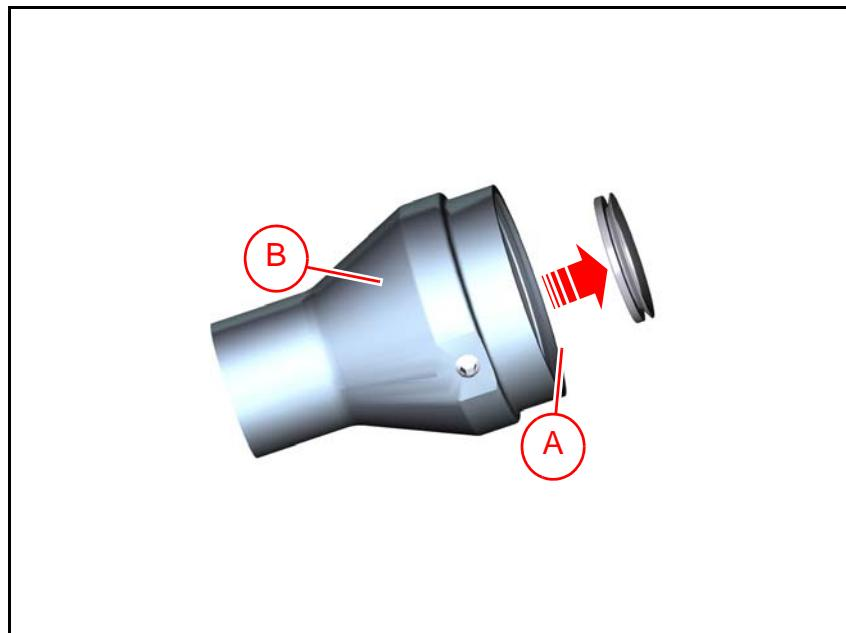
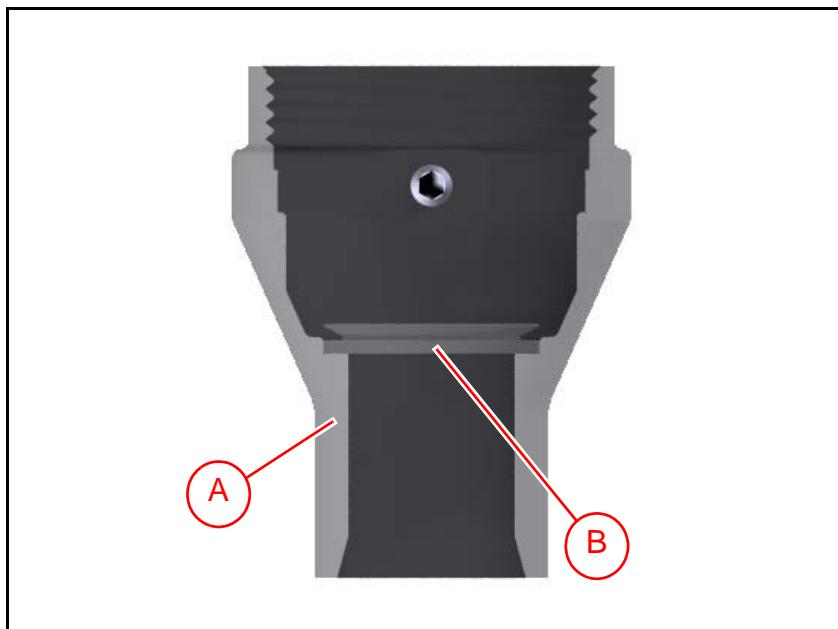

Figure 16-36. Tool holder.
Figure 16-37. Tool holder (front view)
5. Remove the old theta sealing ('A' in Figure 16-36 and 16-37) from the tool holder and insert a new theta sealing with the thicker edge facing the bottom of the tool holder, see Figure 16-37.
6. Use a suitable tool to carefully orient the theta sealing ('A') to be properly seated in the recess at the bottom of the tool holder (see Figure 16-37).